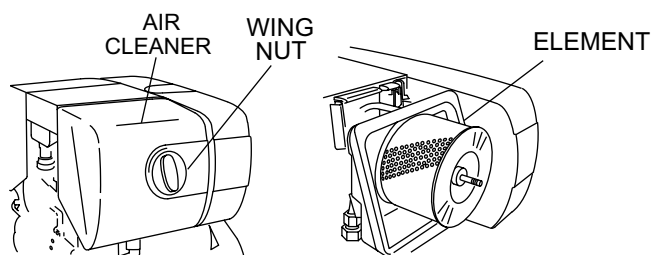

Figure 27. Engine Air Filter and Element
1. The air filter element (Figure 27) should be cleaned because a clogged air cleaner can cause poor engine starting, lack of power and shorten engine life substantially.
2. To clean or replace air filter loosen the wing nut on the air filter housing (Figure 27) remove the cover and take out air filter cartridge. If only cleaning of the air filter is desired blow through the air filter cartridge from the inside, moving a jet of dry compressed air up and down until all dust is removed.